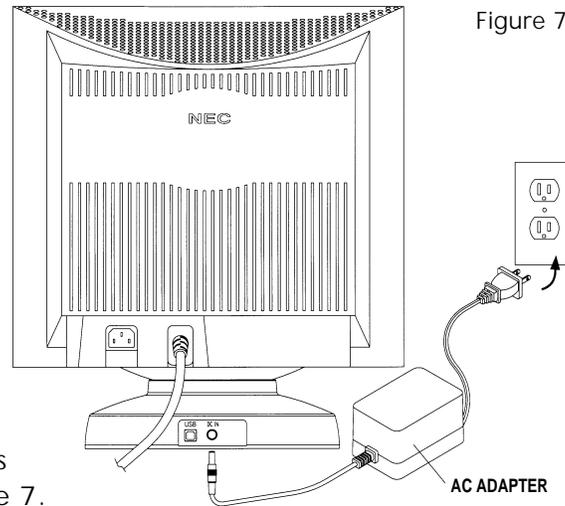

Figure 7
Step 3 Connect one end of the supplied AC adapter to the DC input jack on the rear of the IntelliBase and the other end into any 110-120V AC wall outlet as shown in Figure 7.